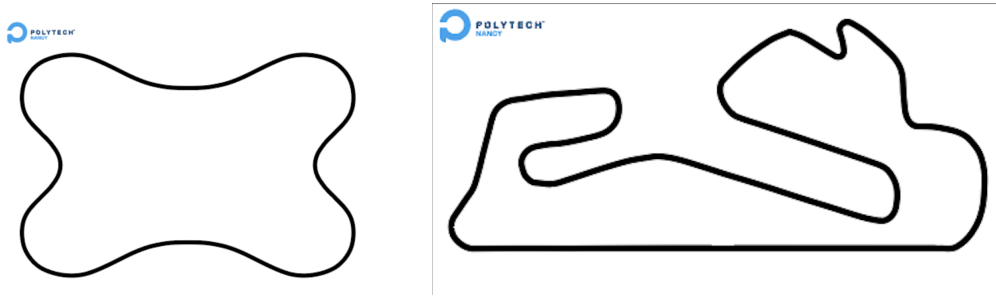

Figure 1.3: Tracks used for initial basic tests and for the racing competition
- a basic track for initial test and a racing competition track which has the form of the F1 Estoril course in Portugal shown in Figure 1.3.